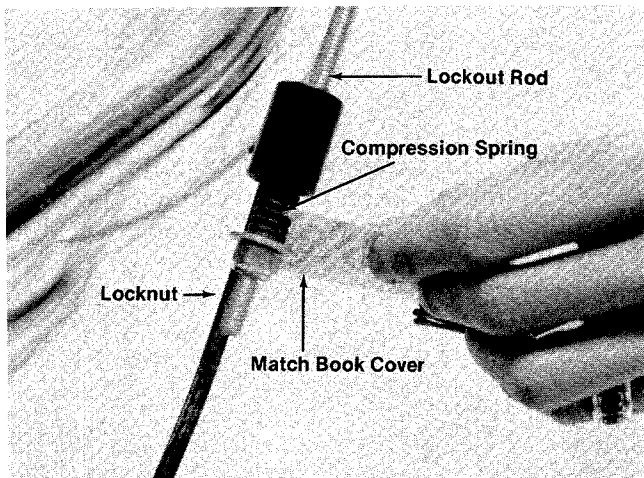

FIGURE 17.
22. Squeeze the auger clutch grip to engage lockout rod so you can check for correct adjustment. With the lockout rod engaged, you should be able to get a match book cover between the coils of the compression spring (spring should not be compressed tightly). If there is not space between spring coils, adjust the locknut using a 7/16" wrench until correct adjustment is reached. See figure 17.